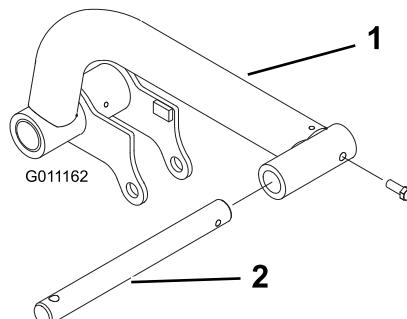

Figure 11
2. Insert a pivot rod into each lift arm and align the mounting holes (Figure 11).